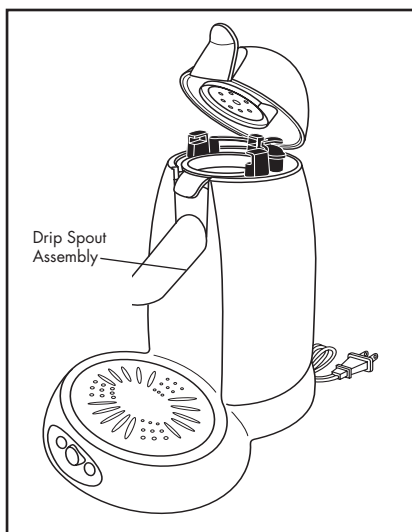

FIGURE 6
6. Place the Pod Holder inside the Pod Chamber. (Do not place a tea or coffee pod in the Pod Holder.) See Figure 6.
6. Place the Pod Holder inside the Pod Chamber. See Figure 6.